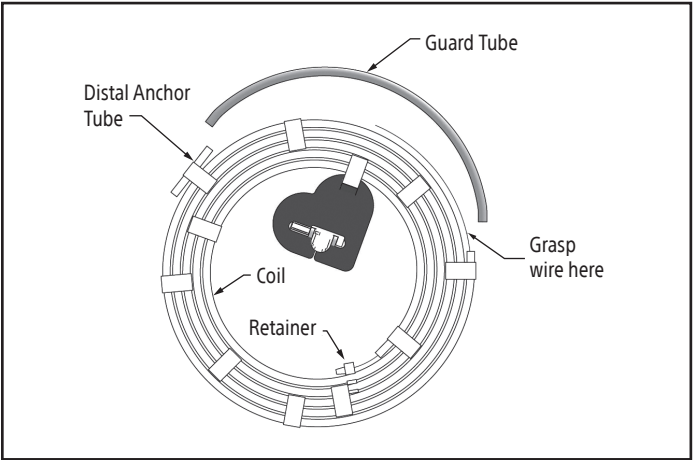

Figure 6.
**Note:** The guidewire may be unloaded directly from the package into the guide catheter (reference Figure 6). Inspect the guidewire for damage. If damaged, do not use.